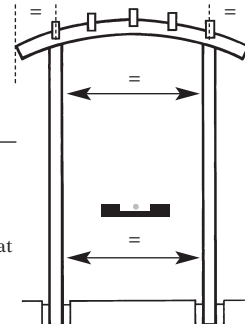

Fig 3.
5. Fit the trellis to the metal brackets using screws (y). NB. Check the posts are the correct way around so that they fit inside the roof curved beams (see Fig.3).